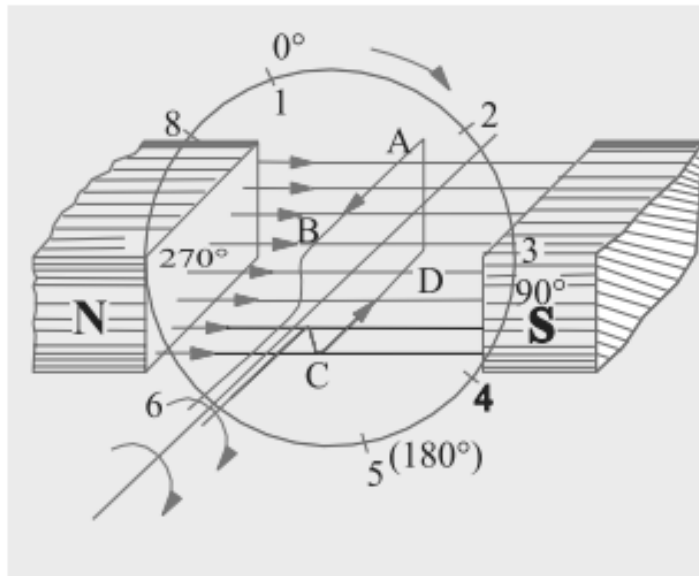

Fig. 1
- Consider a single turn loop ABCD rotating clockwise in a uniform magnetic field with a constant speed as shown in Fig 1.
- When the loop is in position no. 1 (Fig.1), the generated e.m.f. is zero because the coil sides (AB and CD) are cutting no flux but are moving parallel to it. (when the plane of the coil is at right angles to lines of flux, then flux linked with the coil is maximum but rate of change of flux linkages is minimum).
- When the loop is in position no. 2, the coil sides are moving at an angle to the flux and, therefore, a low e.m.f. is generated as indicated by point 2 in Fig. (2).
- When the loop is in position no. 3, the coil sides (AB and CD) are at right angle to the flux and are, therefore, cutting the flux at a maximum rate. Hence at this instant, the generated e.m.f. is maximum as indicated by point 3 in Fig. (2).